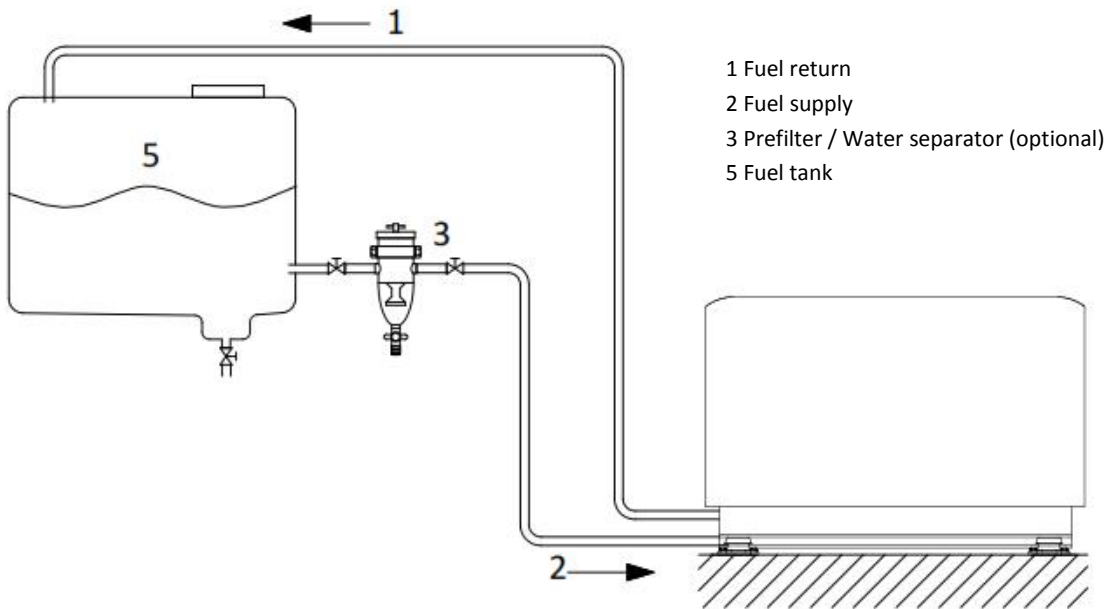
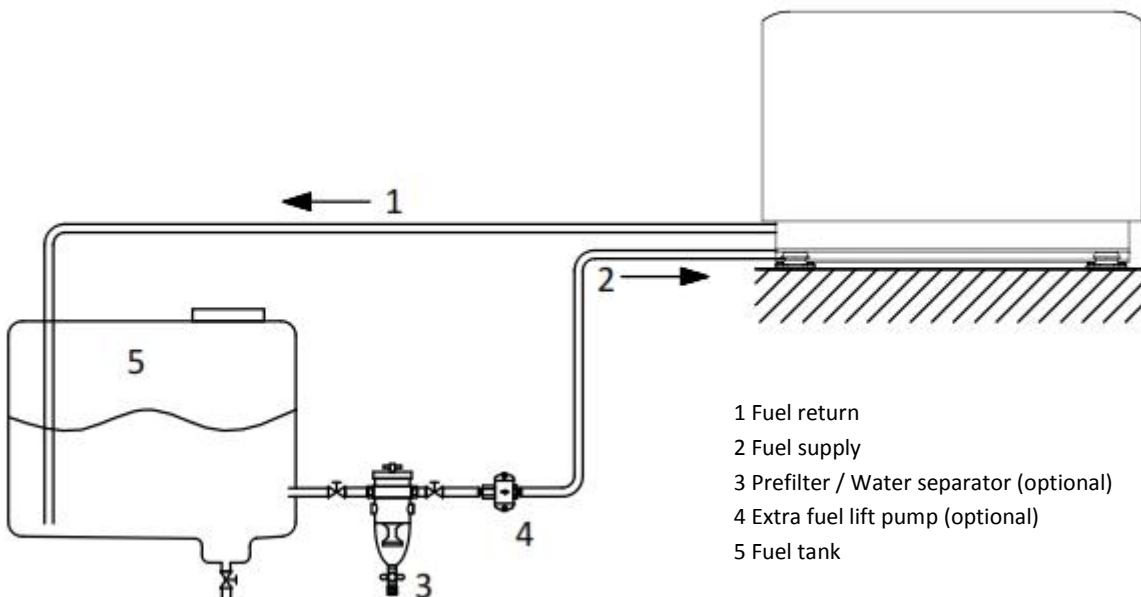

Figure 7: Fuel supply (fuel tank is above the generating set)
Figure 8: Fuel supply (fuel tank is below the generating set)
The generating set itself is equipped with a fuel lift pump; therefore the tank can be installed at a lower level than the generating set (Figure 8). The maximum suction height is 1 m.
When the tank is above the generating set (Figure 7) we recommend ending the return line on the top of the tank. When the return is on the top - in case of a leakage the return line cannot overflow because of siphoning. One will only need a fuel cock in the fuel supply line. When the tank is below the generating set (Figure 8) we recommend ending the return line on the bottom of the tank (A) below the inlet of the supply line.